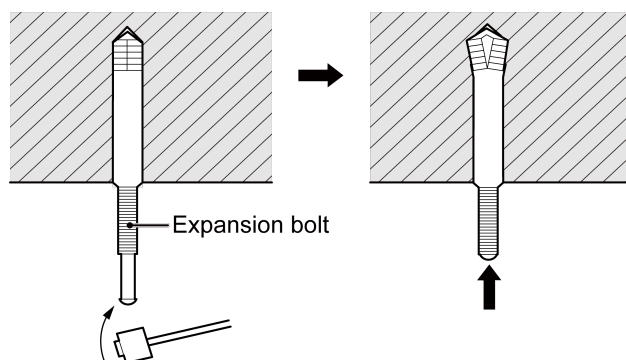

Fig.4.1.4
- 2) Insert the M10 expansion bolt into the hole and then knock the nail into the bolt, as shown in Fig.4.1.4.